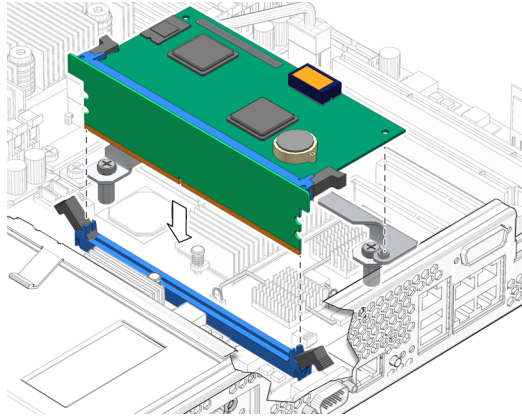

FIGURE 4-20 Inserting the System Controller Board Riser Card
3. Press the riser card into the slot until it clicks into place (FIGURE 4-20).